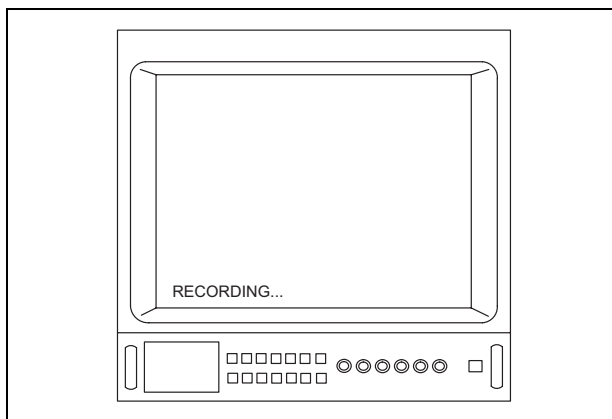

Figure 5.99
3. Press the camera head's or videoscope's remote control switch. The frozen image is displayed on the video monitor while the image is being captured. During image capture, Memory Card indicator blinks on and off, and the menu shown in Figure 5.99 is displayed on the video monitor.
3. Press the "F4" key. The frozen image is displayed on the video monitor while the image is being captured. During image capture, Memory Card indicator blinks on and off, and the menu shown in Figure 5.99 is displayed on the video monitor.